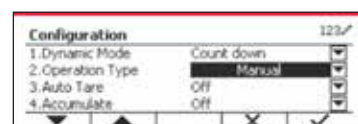

Figure 77
2. Select the list item and press the softkey corresponding to the \checkmark icon to change setting. (See Figure 77)